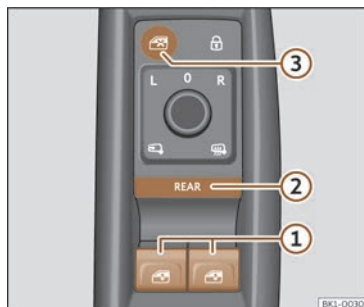

Fig. 69 Detail of the driver's door: window controls.
- ① Electric window operation buttons.
- ② Button **REAR** for activating the electric window operation and comfort opening and closing.
- ③ Button to deactivate the electric window operation buttons on the rear doors.
By default, the electric windows on the front doors can be operated with the buttons » **Fig. 69 ①**.
REAR Briefly press the button » **Fig. 69 ②** to activate the operation of the **rear** door electric windows. When the operation of the rear door electric windows is activated, the button's light is on.
- Press the button » **Fig. 69 ③** to deactivate the electric window buttons located on the rear doors. When these buttons are deactivated the button light turns out.